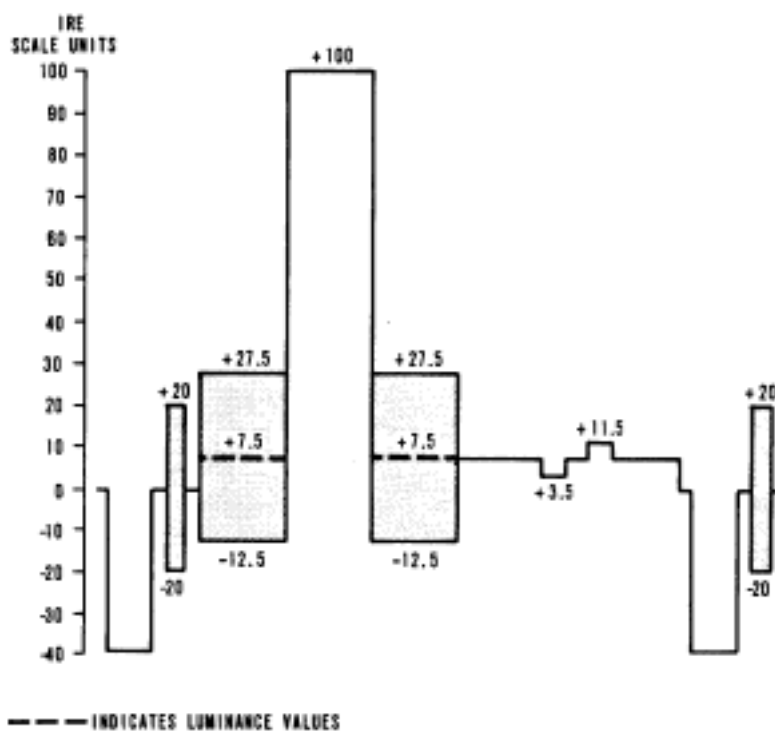

Figure 4 – One line of black set signal with -I, +Q, and white reference, Y-Y'
3.3 The black set signal is located in the bottom righthand portion of the raster. Two bars, one slightly whiter-than-black and the other slightly blacker-than-black, are included. Figure 4 shows the appearance of one line of the black set signal on a waveform monitor.